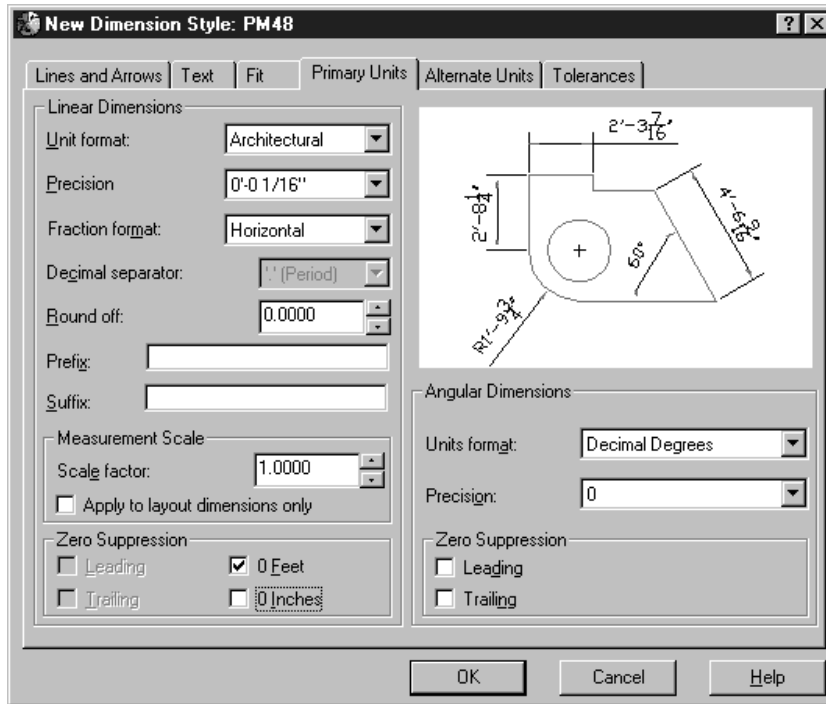

Figure 5-27
4. You probably should change the primary units to Architectural units. To do this, pick the **Primary Units** tab and then change the Unit format from Decimal to **Architectural**. See Figure 5-27. Pick the **OK** button. This takes you back to the Dimension Style Manager dialog. Pick the **Close (x)** button to exit.